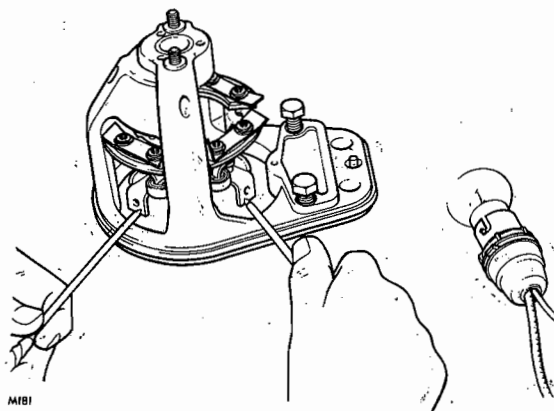

FIG. 4. CHECKING THE BRUSH GEAR (a)
- a. The positive and negative brush holders (Fig. 4).